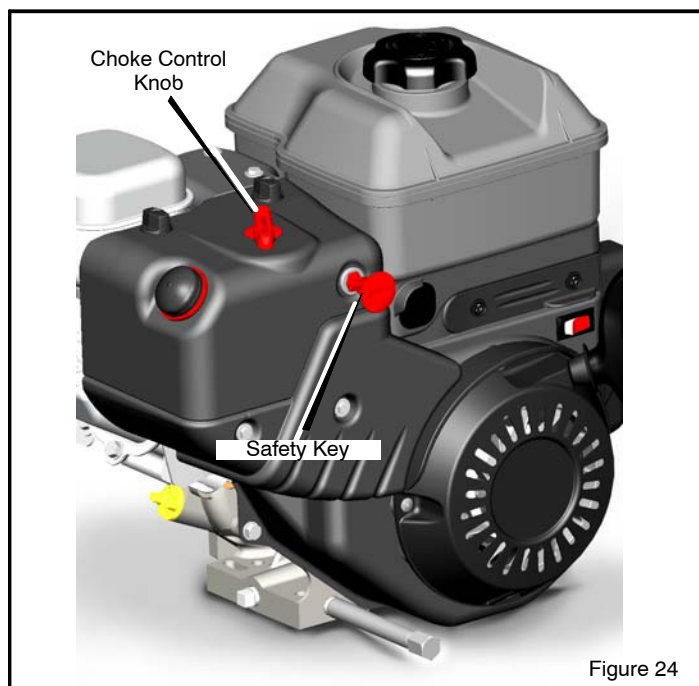

Figure 24
1. Remove the choke control knob (see Figure 24).